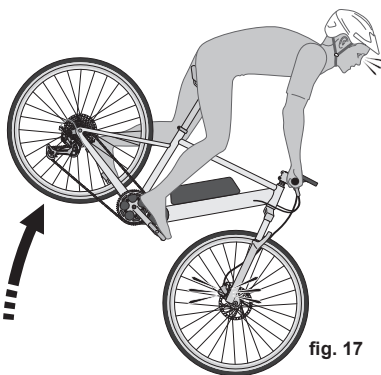

fig. 17
2. Applying brakes too hard or too suddenly can lock up a wheel, which could cause you to lose control and fall (see fig. 17). Sudden or excessive application of the front brake may pitch the rider over the handlebars, which may result in serious injury or death.